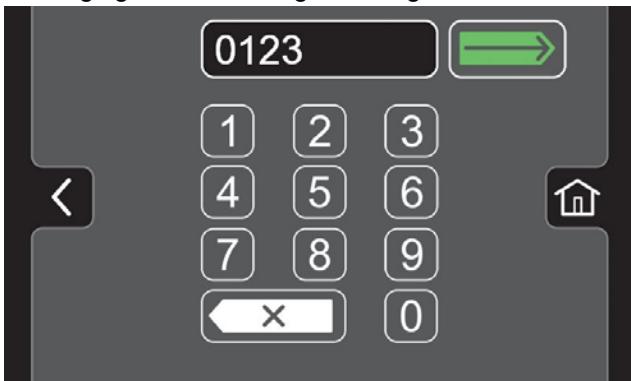

FIG. 166
5. Assign a login code for the new user profile then press the green enter button (Figure 166). The new login code can be any combination of numbers ranging from 3 to 8 digits in length.